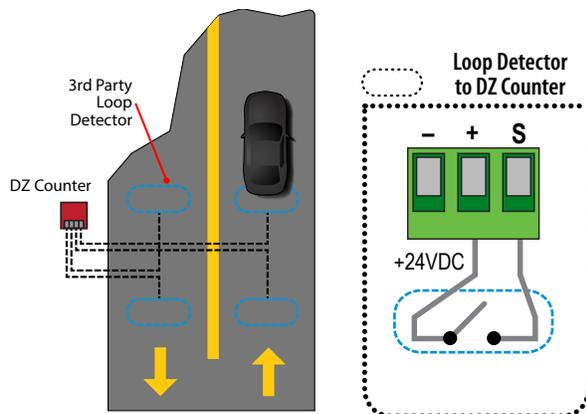

Figure 4-4. Loop Detector Wiring
- Connect the + (middle terminal) of the male connector to the **COM** wire from the loop detector. Connect **S** (right terminal) to the **NO** wire from the detector. (refer to Figure 4-4)